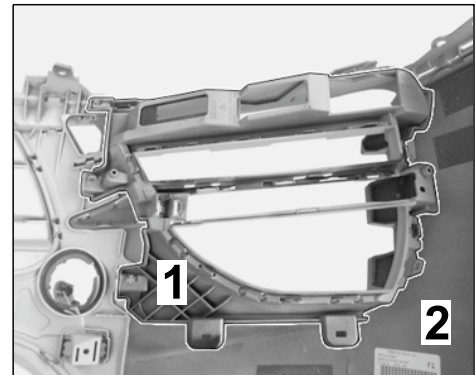

Figure 10
- 2.7.1 Fit new air grilles (side, left/right) in the front apron (⇒ *Figure 10*; ⇒ *Workshop Manual '66041921 Removing and installing front air grille (Turbo)*).